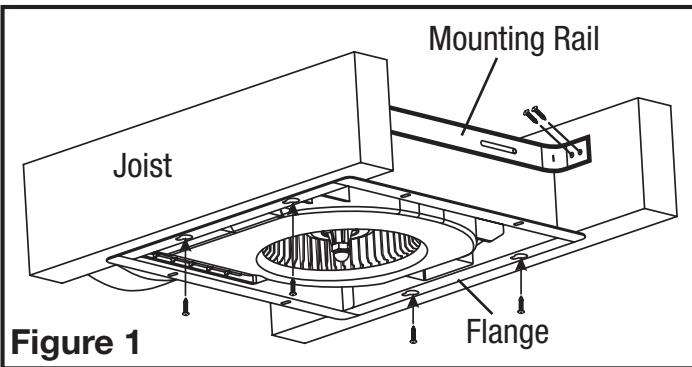

Figure 1
- Install the rail into the mounting channel on the housing. Line up one side of the housing flange to the ceiling joist and secure with at least two of the mounting screws. Secure the ends of the rails with the included screws to the joist (**Figure 1**).